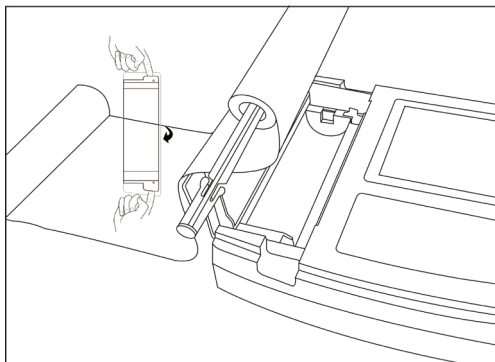

Figure 6-1 Assembly of recording paper
1. As shown in Figure 6-1, use both hands to lift both sides of the paper compartment cover at the same time to open it. Take out the roller, insert it into the roll paper as shown in the figure. The paper side with grids should be faced downwards, and then assemble it to proper position in the paper compartment.